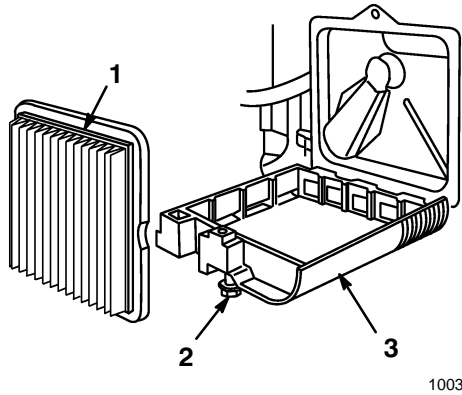

Figure 19
3. Loosen the screw that secures the air filter cover to the engine (Fig. 19). Tilt the air cleaner cover down and clean the cover thoroughly.
4. Remove and discard the paper air cleaner filter (Fig. 19).